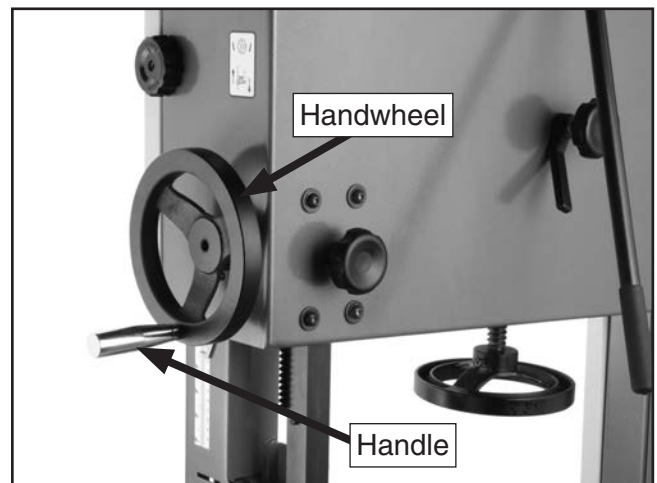

Figure 26. Handwheel correctly installed.
7. Slide the handwheel (see **Figure 26**) on to the shaft.